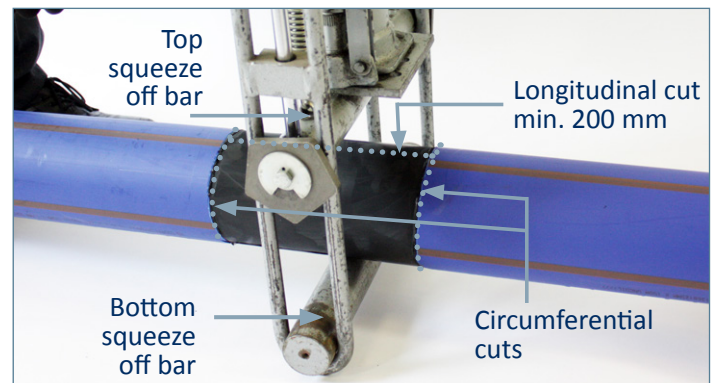

Fig 3.
7) When using the ProFuse PET™ to remove the skin, the longitudinal cut should be made at the mid point where the squeeze off bar is going to be in contact with the pipe (Fig 3.)
- 13) For ProFuse® pipe, the squeeze off tool must be positioned centrally to the length of the removed ProFuse® skin (Fig 3.).